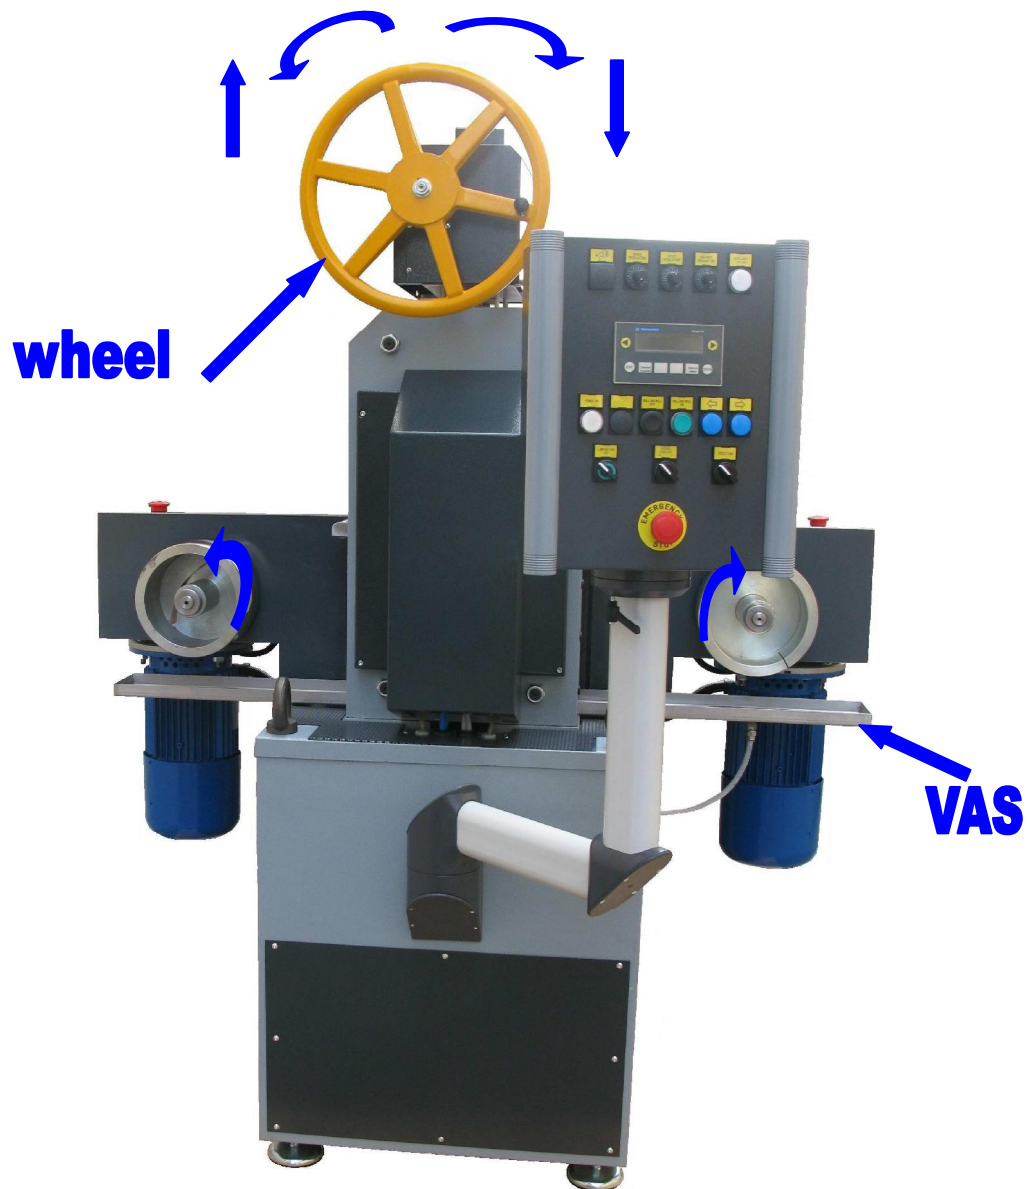

Fig. 4 - Coiling-Uncoiling spooling reels
Rotating anti-clockwise (Fig.4) raises the upper cylinders, thus increasing the laminating distance, and conversely this gap is reduced by rotating the wheel clockwise.
The rolling mill TT1200 is equipped with an oil supply pump for the rolling operations (PO) set in the right side of the rolling mill base. The operator can choose to use or not this pump according to the kind of work to be performed. The rolling pump can be switched off only through the light selector (LOIL). The oil quantity sprayed on the product to be rolled is set by the operator through a sphere tap (RU). The outgoing oil is collected in a basin (VAS) (Fig.4) under the rollers and conveyed again to the pump.